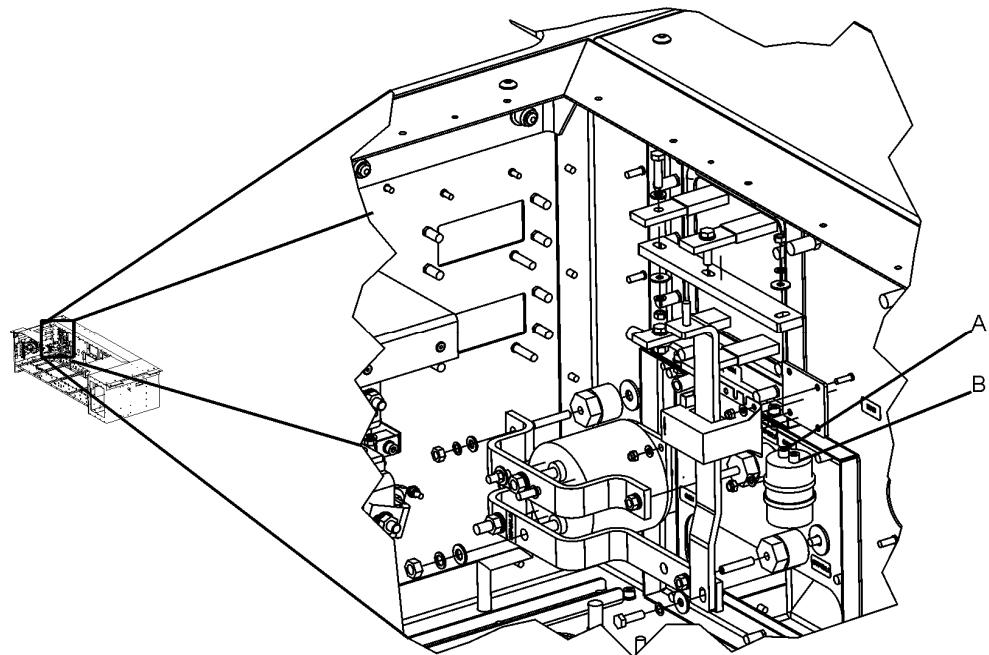

Figure 5-36: C411 Electrical Connections
- a. Disconnect cables A & B (see Figure 5-36). These cables are connected at the top of the capacitor using M5 screw, Schnorr washer and flat washer sets. Remove the fasteners and disconnect the cables.
- a. Connect cables A & B (see Figure 5-36). These cables are connected at the top of the capacitor using M5 screw, M5 Schnorr washer and M5 flat washer sets. Connect the cables to the proper terminals and affix these fasteners.